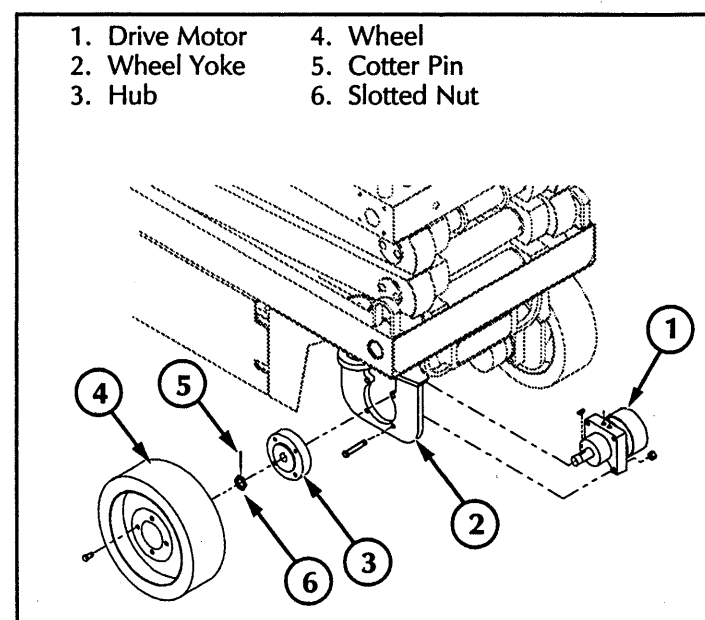

Figure 4-9: Drive Motor Installation
4.9 Hydraulic Drive Motors and Hubs (Figure 4-9)